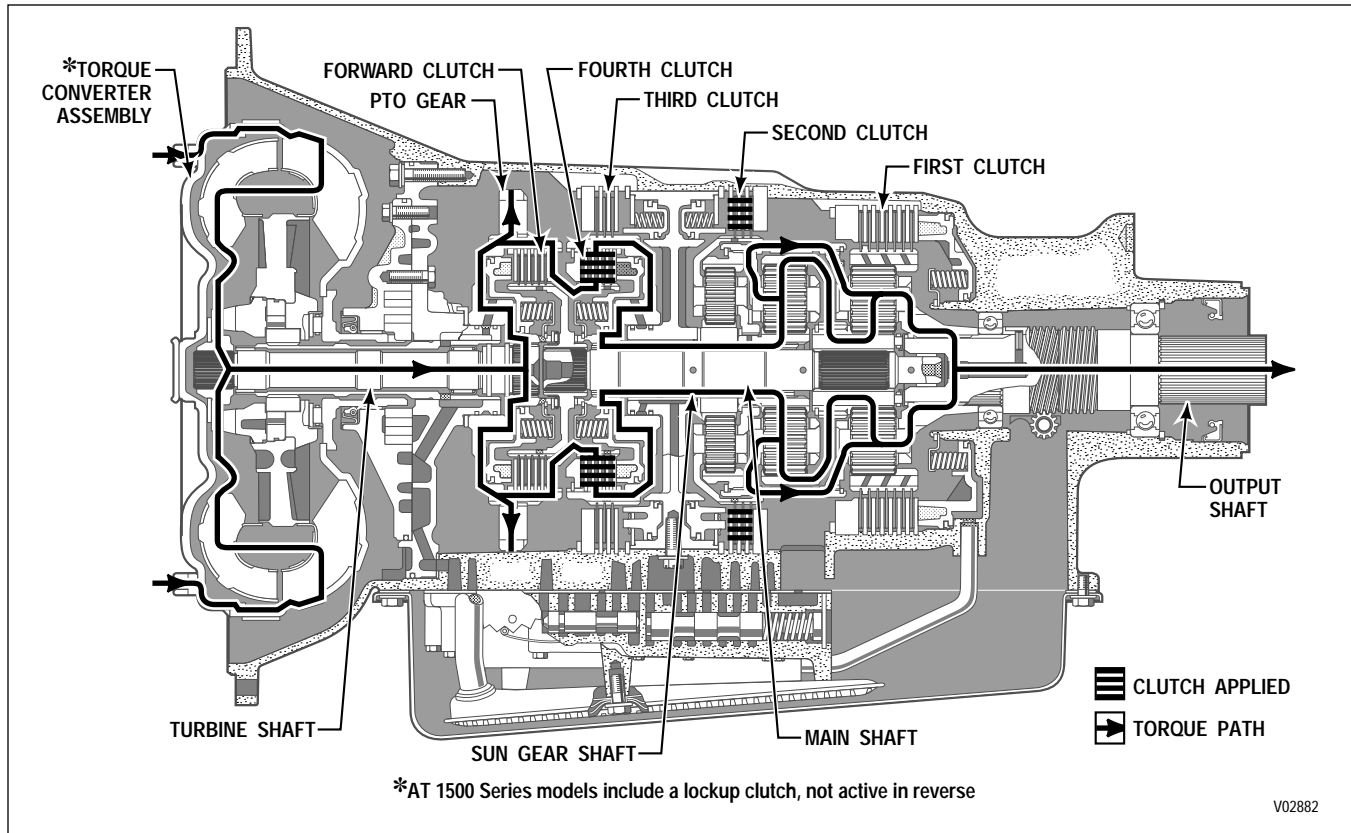

Figure 2-6. Reverse Power Flow
j. Reverse Operation (*Figure 2-6*). Reverse is the only range in which the forward clutch is not engaged. In this range, the fourth clutch is applied and this rotates the sun gear shaft assembly (with the front and center sun gears splined to it) at turbine speed. The first clutch is applied also, and anchors the rear ring gear against rotation. The center sun gear rotates the center carrier pinions, which, in turn, rotate the center ring gear in an opposite direction. The center carrier is